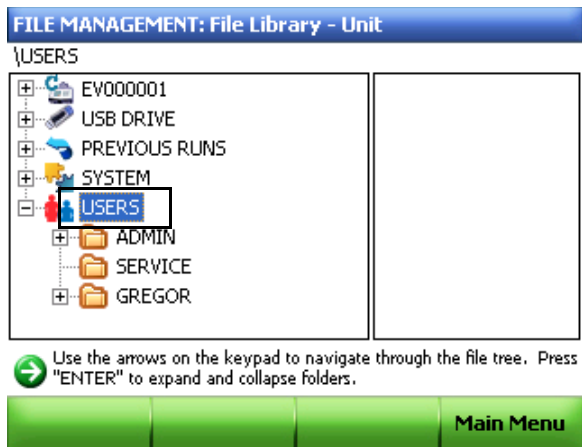

Figure 17. The USERS folder is highlighted.
- **USERS** folder — contains folders created by users for personal protocol storage (Figure 17). The USERS folders can be accessed by everyone, but only the user who is logged in can edit, delete or save into these folders